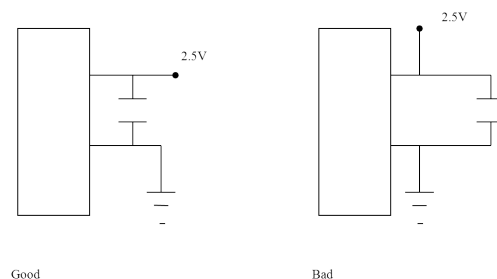

Figure 3.10: Layout for Pin 37,38,41 and 42.
- It is recommended to follow the layout topology for MT3301 pin 37,38,41 and 42 as in Figure 3.10.